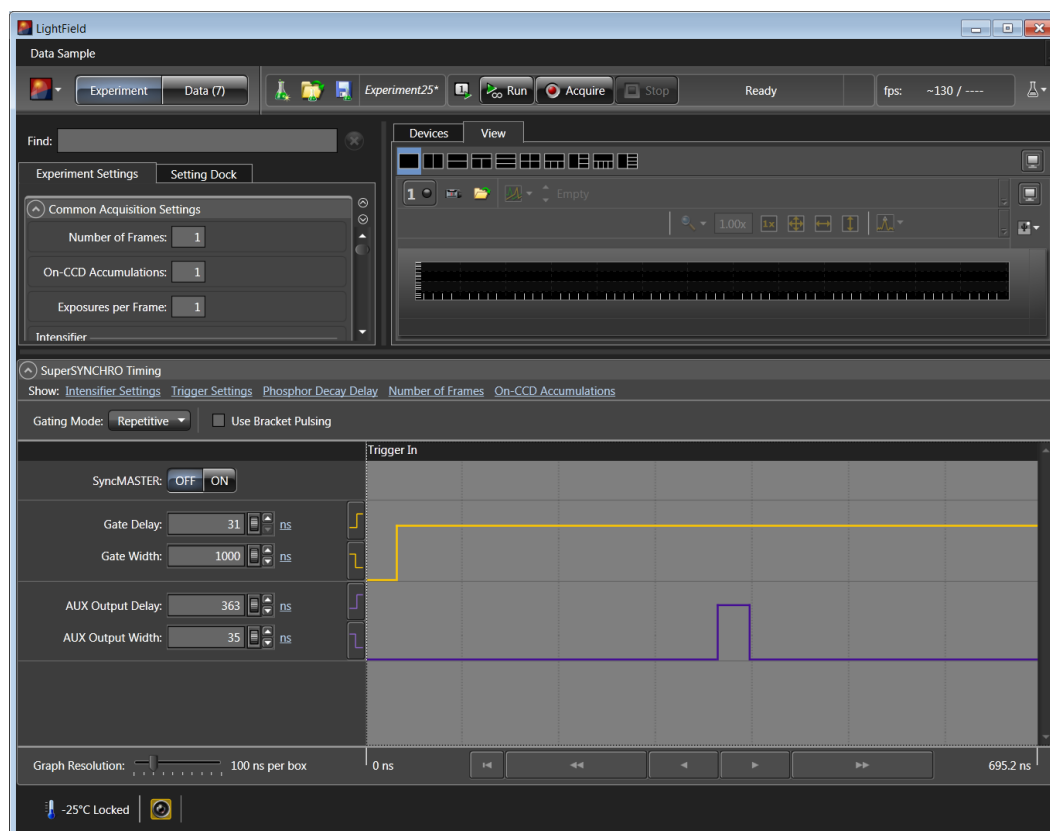

Figure 79. SuperSYNCHRO Timing expander: Repetitive Gating Setup
- The Gate Width and Gate Delay values would be entered in the **SuperSYNCHRO Timing** expander (Figure 79).